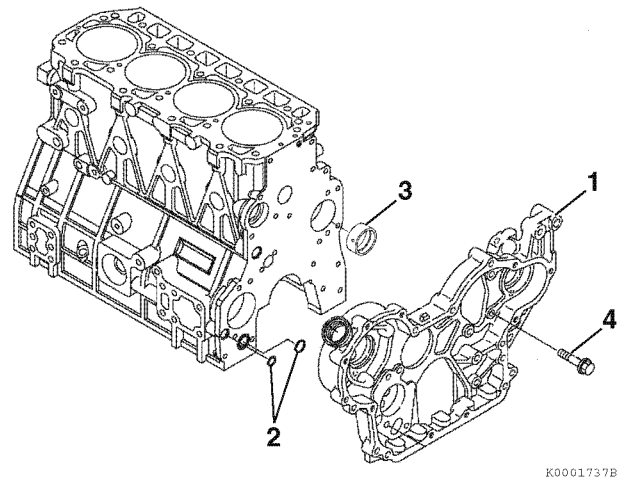

Figure 6-98
- Remove the bolts (4, **Figure 6-98**).
- Remove the gear case (1, **Figure 6-98**) or front plate from the cylinder block. Thoroughly clean all old sealant from the mating surfaces.
- Inspect and measure the camshaft bushing. See Camshaft on page 6-8 for the service limit. If damaged or worn beyond service limits, remove the camshaft bushing (3, **Figure 6-98**).
- TNV94 - TNV106:** Remove two O-rings (2, **Figure 6-98**).